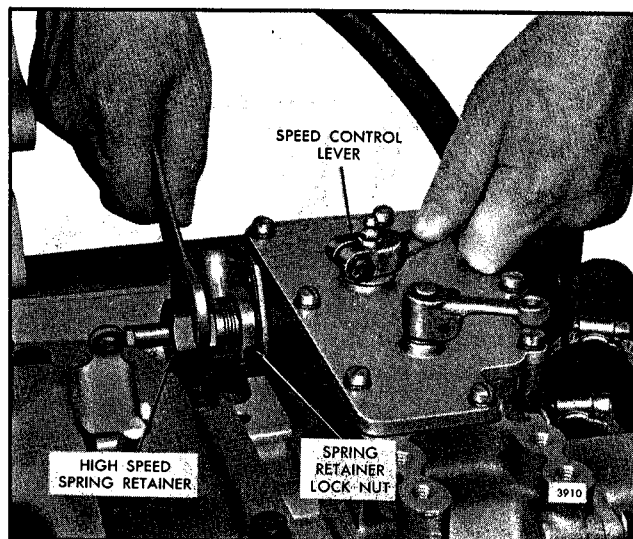

Fig. 4 - Adjusting Maximum No-Load Engine Speed
2. With the engine at operating temperature and no-load on the engine, place the speed control lever in the maximum speed position. Turn the high speed spring retainer in (Fig. 4) until the engine is operating at the recommended no-load speed. Use an accurate tachometer to determine the engine speed. The recommended speed droop is 150 rpm for governors with a speed range of 2500-2800 rpm.